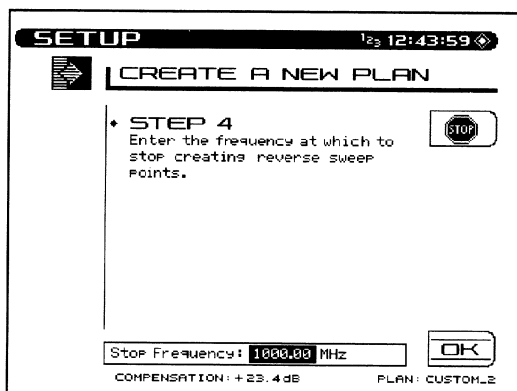

Fig. 14-17 Creating a New Reverse Sweep Plan, Step 4
4. Finally, enter the stop frequency (see Figure 14-17). There will be no sweep points generated beyond the stop frequency. Use the numeric keys followed by the **ENTER** key. Then press the **OK** soft key to continue.